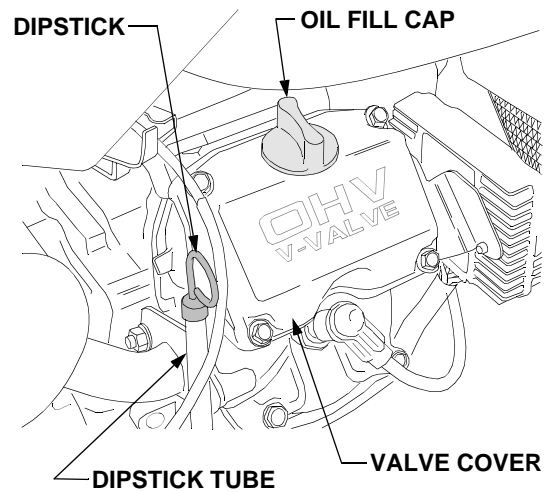

Figure 46
- Check the oil level only while the engine is stopped and the tractor is level. Clean the area around the oil level dipstick to prevent debris from entering the crankcase. See Figure 46.
- To check the oil level, withdraw the dipstick and wipe it clean; then insert the dipstick all the way into the tube before withdrawing it for a true reading. See Figure 46.
- Clean the area around the oil filler cap to prevent debris from entering the crankcase. Refer to Figure 46.
- Remove the dipstick and oil fill cap from the engine. Refer to Figure 46.